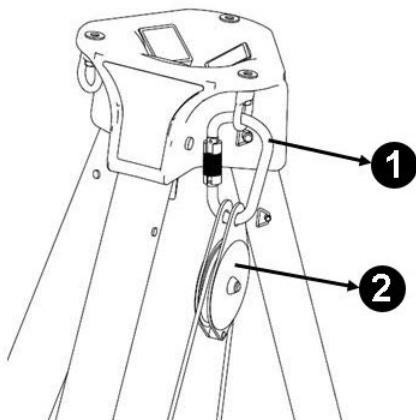

Figure 4
- Hang carabiner and pulley to tripod head anchors on the side. See Figure 4. The winch snaphook must be hung towards the inside of the tripod.